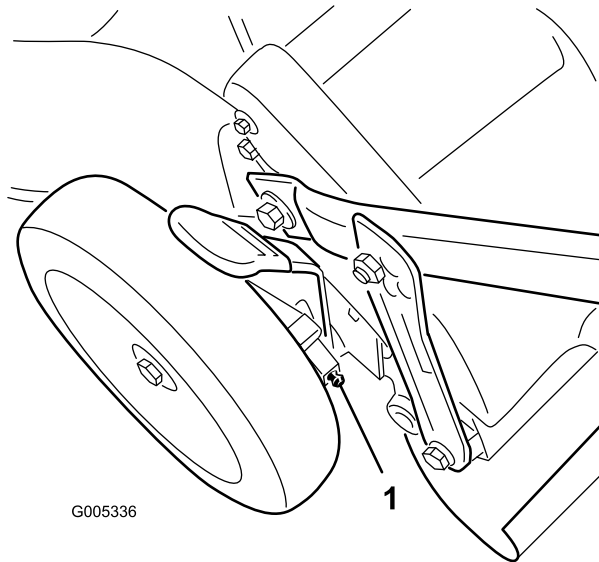

Figure 25
1. Wipe the grease fittings just inside the rear wheels with a clean rag (Figure 25).